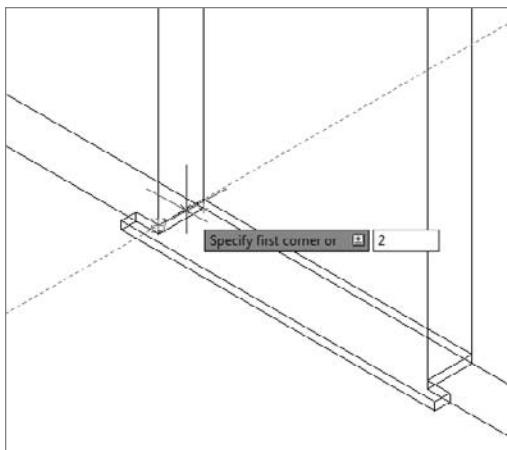

FIGURE 16.44 Locating the first corner of the door box
5. Move the cursor in the X direction until the tracking vector appears, and then enter `2.1 (51.1)` to set the first corner of the door 2" (51 mm) from the corner of the opening (see Figure 16.44).